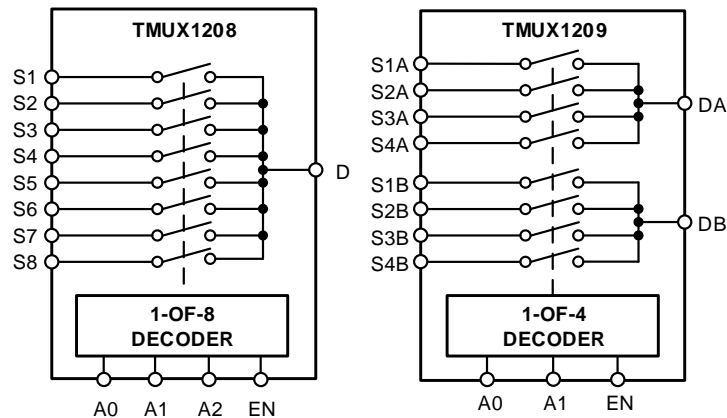

**Figure 16. Bandwidth Measurement Setup**
Bandwidth is defined as the range of frequencies that are attenuated by less than 3 dB when the input is applied to the source pin (Sx) of an on-channel, and the output is measured at the drain pin (D) of the device. **Figure 16** shows the setup used to measure bandwidth.